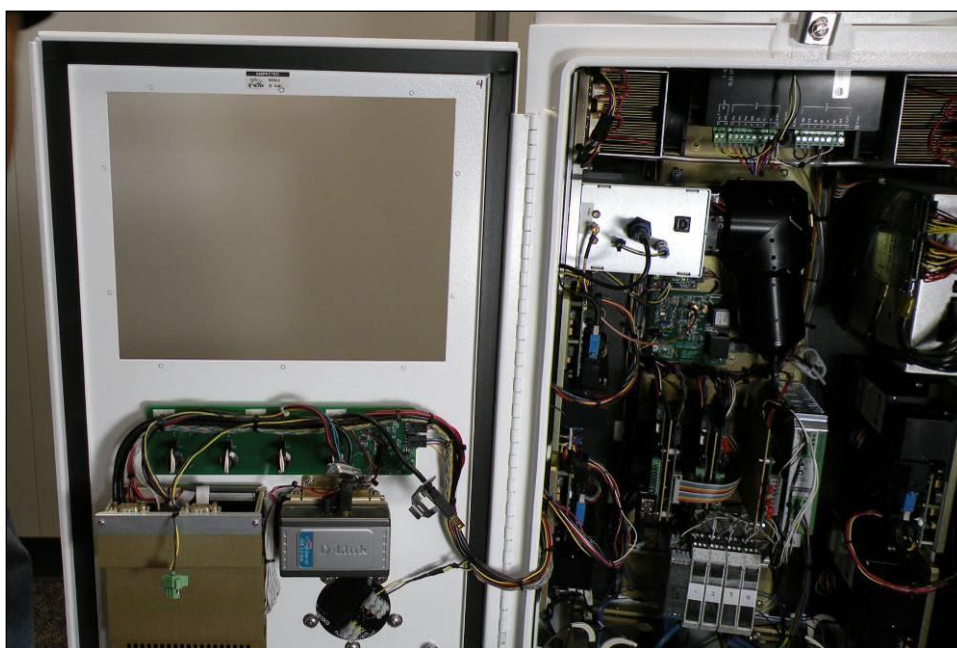

Figure 115. View with monitor removed
5. View with monitor removed (Figure 115).